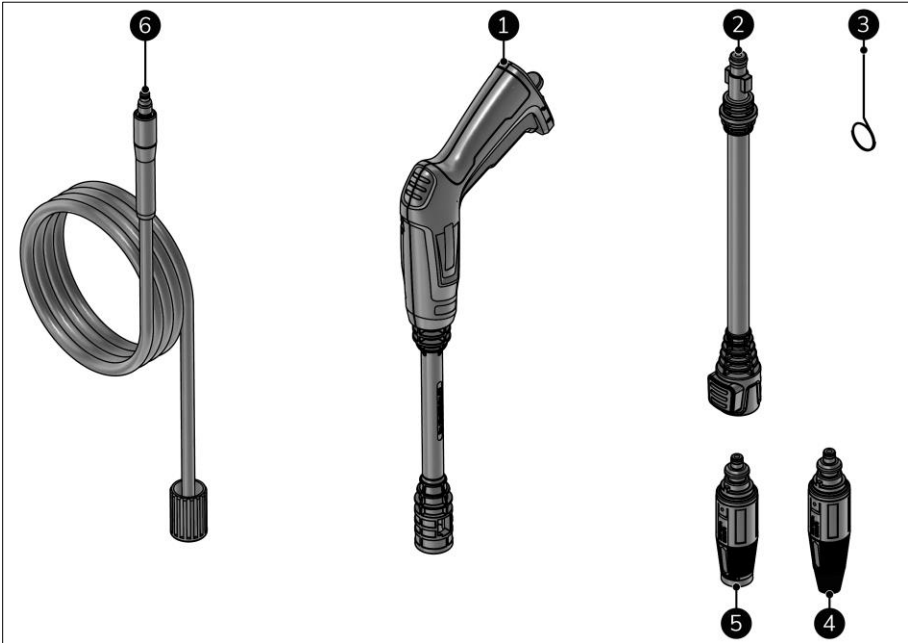

Figure 5
This device contains the following accessories (Figure 5):
1. Hold the jet gun (Figure 5, pos. 1) with both hands.